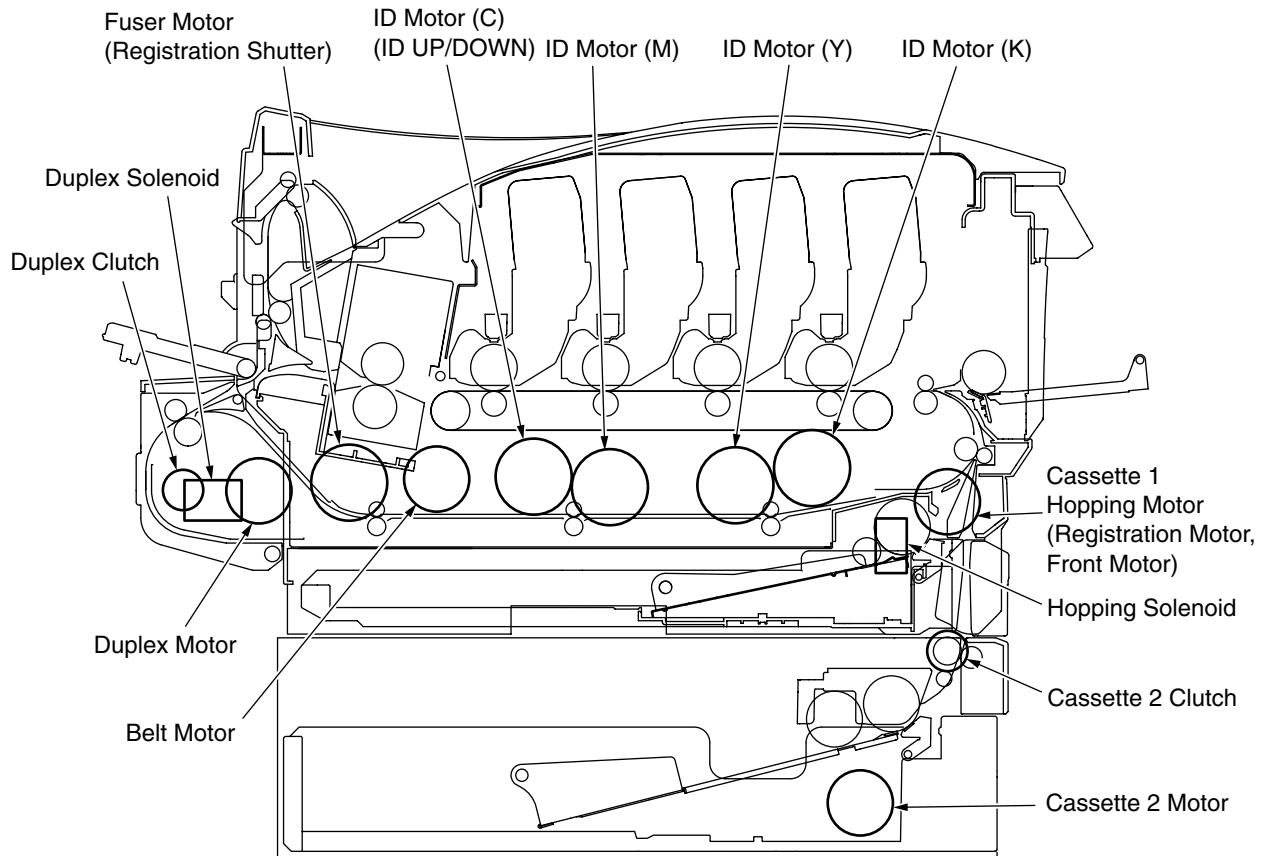

Figure 5-2
3. Pressing the ENTER key starts the test of the unit, blinking the displayed name of the unit. The unit is driven for 10 seconds (refer to figure 5-2).